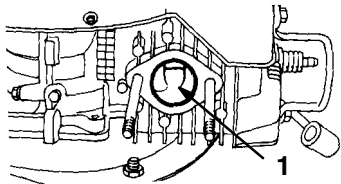

Figure 31
- Slowly pull the recoil starter so that the piston covers the exhaust port (Fig. 31).
- Clean the carbon from the exhaust port (Fig. 31) with a flat hardwood scraper.
- Install the muffler with the screw, two nuts, and two lockwashers (Fig. 31).